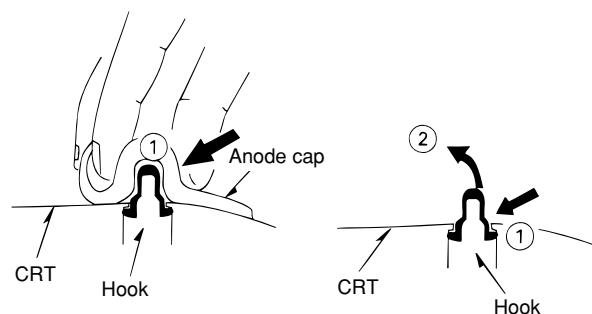

Figure 2-3
- (5) Push the anode cap with your thumb in the direction of arrow ① as shown in the figure, then lift the cap in the direction of arrow ② to release the hook on one side. (See Figure 2-3)